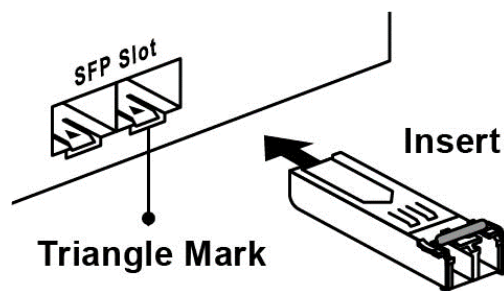
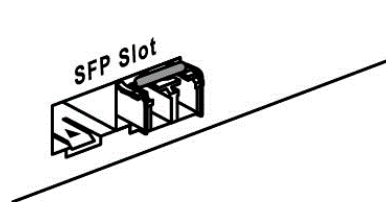

Figure 2.4 - Transceiver to the SFP Module
Figure 2.5 - Transceiver Inserted
Step 1 - Insert the SFP transceiver module into the SFP slot as shown below in *Figure 2.4*. Notice that the triangle mark is at the bottom of the SFP slot. *Figure 2.5* shows the SFP transceiver module was inserted.